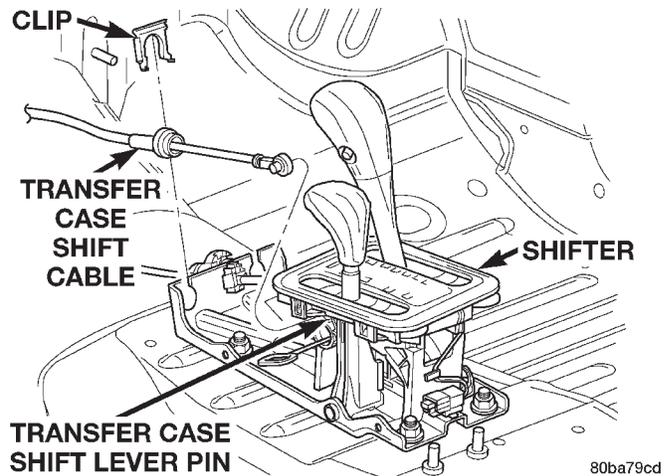

Fig. 42 Transfer Case Shift Cable
(3) Connect all wiring on the shifter assembly.
(4) Install the transfer case shift cable on the shifter bracket assembly and secure with clip (Fig. 42).
(5) Snap the transfer case shift cable onto the shift lever pin (Fig. 42).